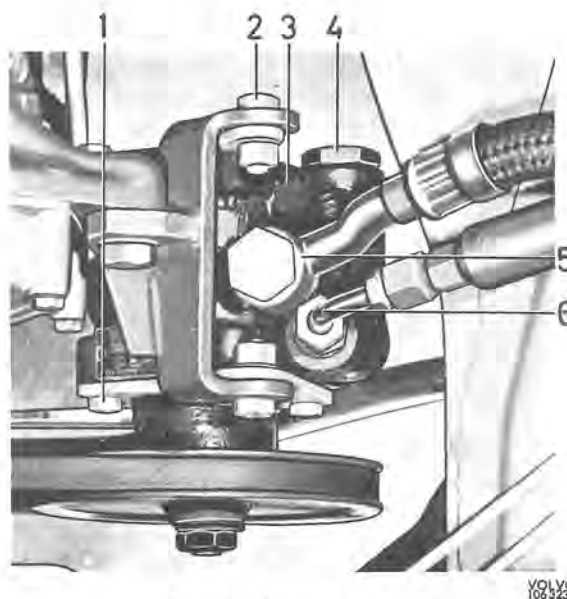

Fig. 6-59. Servo pump, fitted
1. Clean round the connections (5 and 6, Fig. 6-59).
2. Disconnect the suction line (5) and collect the oil running out.
3. Disconnect the delivery line (6), and unscrew the
Concerning replacement of pump, supplement the new pump with brackets, pulley and other parts, see Fig. 6-59. When fitting the pulley, the tolerances may be such that the pulley cannot be pressed on by hand. In these cases, press on the pulley with care. It must not be hammered on, otherwise the bearings might easily get damaged, resulting in noise in the pump.
2. Fit the attaching bolts and other components, see Fig. 6-59. Tension the drive belt so that it can be pressed in about 5 mm ($3/16$ ") in the middle. Tighten the bolts and the connections.